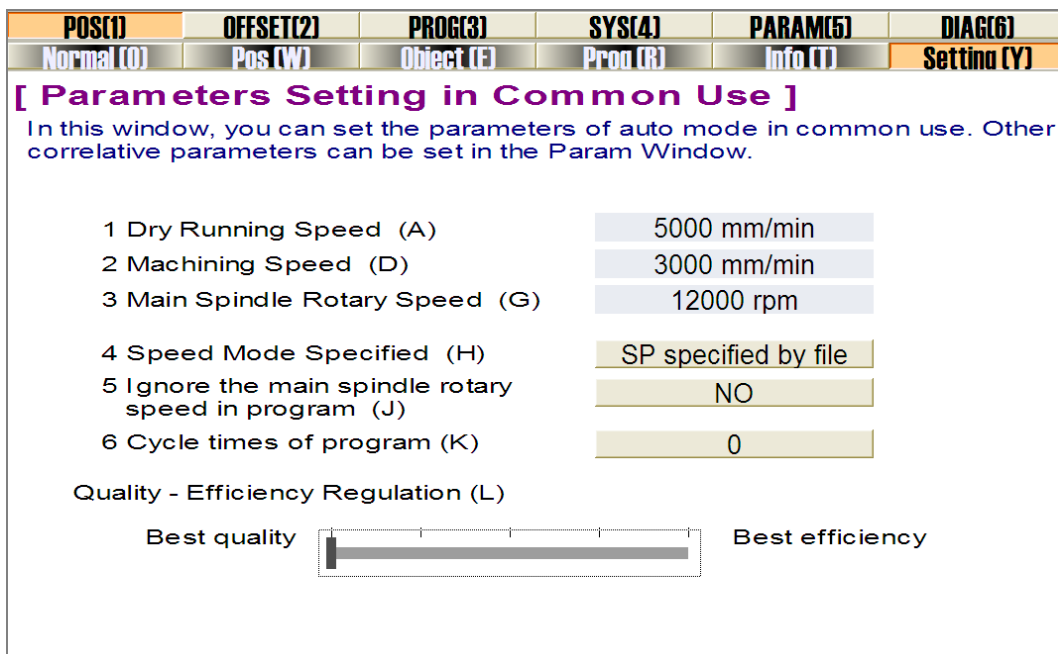

Fig. 4-16 Spindle speed setting in auto mode
In auto mode, turn to “Setting” window under “POS” functional area, as shown in Fig. 4-16.
1. As shown in Fig. 4-16, if parameter “Ignore the main spindle rotary speed in program” (N72002 “IGNORE_PROG_SPINDLE_REV”) is set to “No”, the spindle speed specified by S command in the program file will be enabled if S command exists; otherwise, spindle speed specified by “Main spindle rotary speed” will be enabled in machining.
1. Click figure button next to “Machining speed” to open input box, where you can enter a desired value, as shown in Fig. 4-16. Modification takes effect immediately. Or turn to “Parameter” window under “PARAM” function area and modify parameter N64021 “DEFAULT_FEEDRATE”. Modification takes effect immediately.
3. If item “Speed Mode Specified” in Fig. 4-16 is set to “SP specified by the file” (corresponding to parameter N72001 “SPEED_ASSIGN_TYPE” is set to “0”), feedrate specified by F command will be enabled if F command exists in the program file; otherwise, feedrate specified by “Machining speed” (corresponding to setup value of parameter N64021) will be enabled in machining.
1. Click figure button next to “G00 speed” to open input box, where you can enter a desired value, as shown in Fig. 4-16.